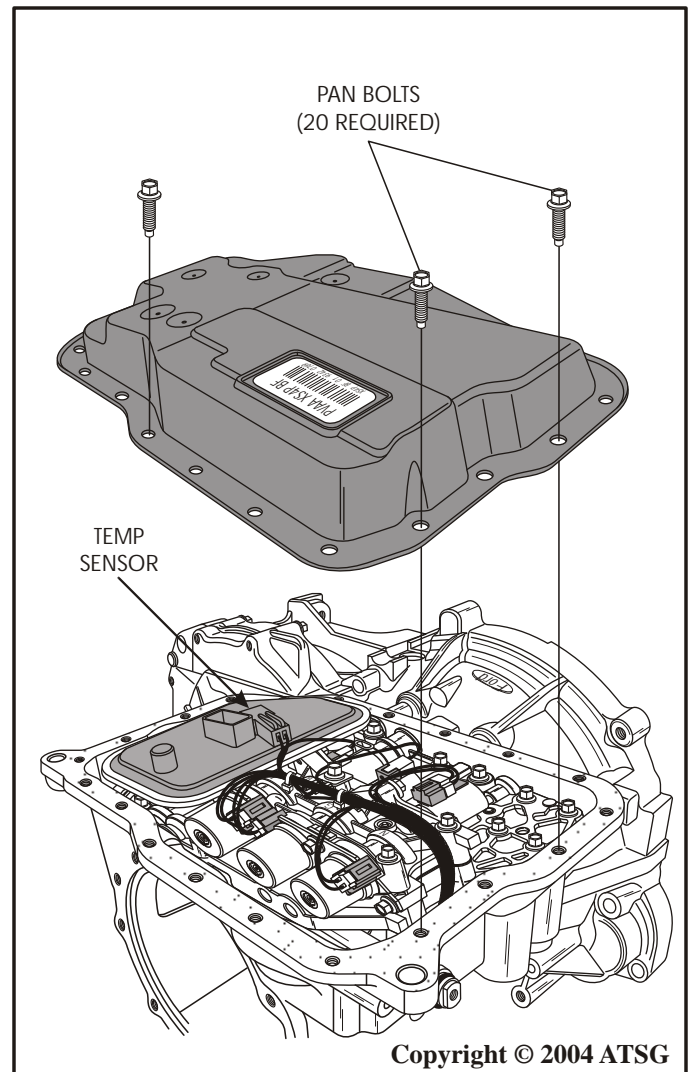

Figure 163
21. Install the fluid temperature sensor by snapping it into position on the filter (See Figure 163).
24. Install the transaxle fluid pan, as shown in Figure 163.